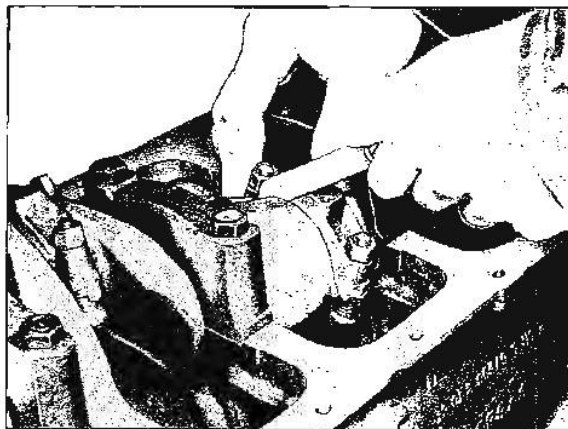

Fig. 6-57 Checking Connecting Rod Side Clearance
5. Check connecting rod end clearance between connecting rod cap and side of crankpin (Fig. 6-57). Clearance should be .008" - .014". If clearance is more than .014", replace connecting rod.